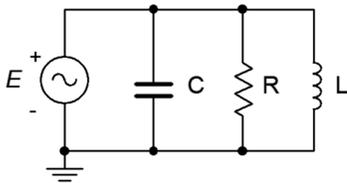

Figure 3.22
39. Determine a value for C such  $|X_C| = |X_L|$  for the circuit shown in Figure 3.22. The source frequency is 1 kHz,  $R = 200\ \Omega$  and  $L = 50\ \text{mH}$ .
42. Determine a value for  $C$  such that the impedance angle for the circuit shown in Figure 3.22 is purely resistive (0 degrees). The source frequency is 1 kHz,  $R = 200\ \Omega$  and  $L = 50\ \text{mH}$ .